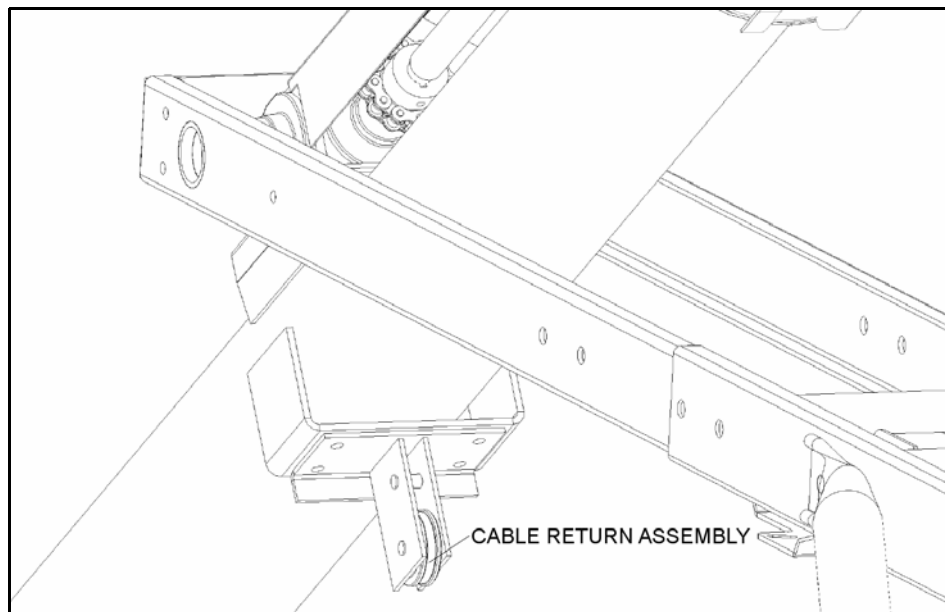

Figure 3.20
4. Attach the cable return assembly to the tube with four 7/16" x 1-1/4" bolts and locknuts (Figure 3.20).